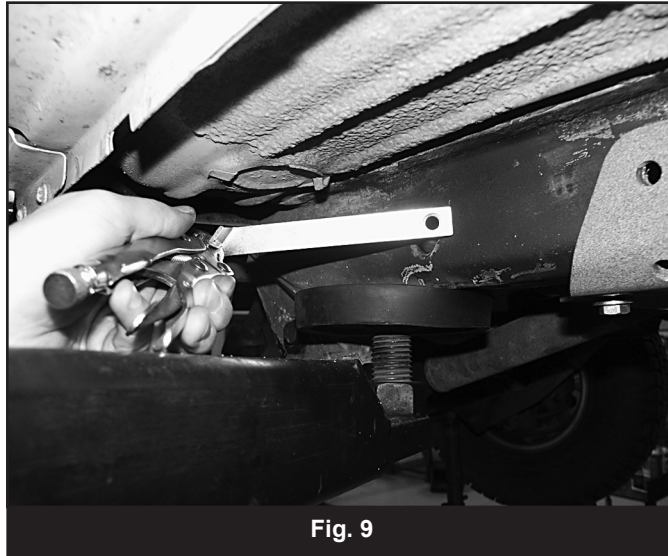

Fig. 9
22. Install the side supports back into position with the same hardware as before. Lightly snug the hardware. Install the provided nut tab (01377, 01378) in the slotted hole in the frame in front of the side support (Fig 9), back to the 7/16” hole drilled earlier (the nut tabs are driver’s and passenger’s side specific to match the angle of the slot). Loosely fasten the side support with a 7/16” x 1-1/4” bolt and 3/8” USS washer (BP 715) into the nut tab.